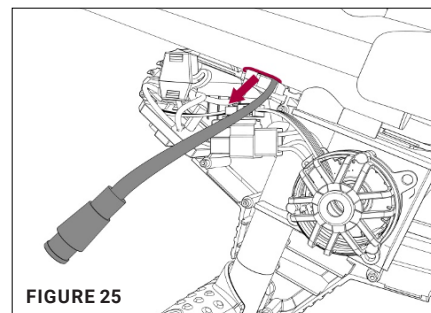

FIGURE 25
8. Run the wire back through the frame and reconnect. [Figure 25]